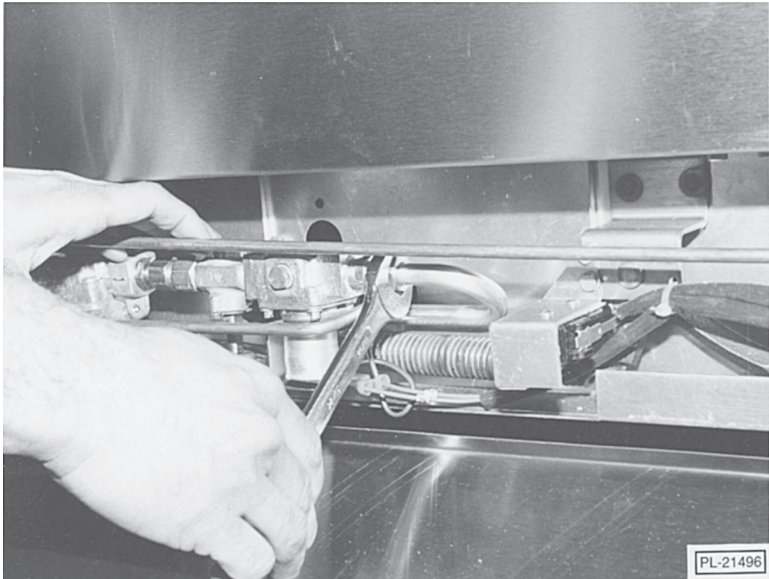

Fig. 66
2. Disconnect $1\frac{1}{16}$ " NPT straight fitting (1) at right-hand burner tube, and (2) at the safety valve (Figs. 66, 67, & 68).